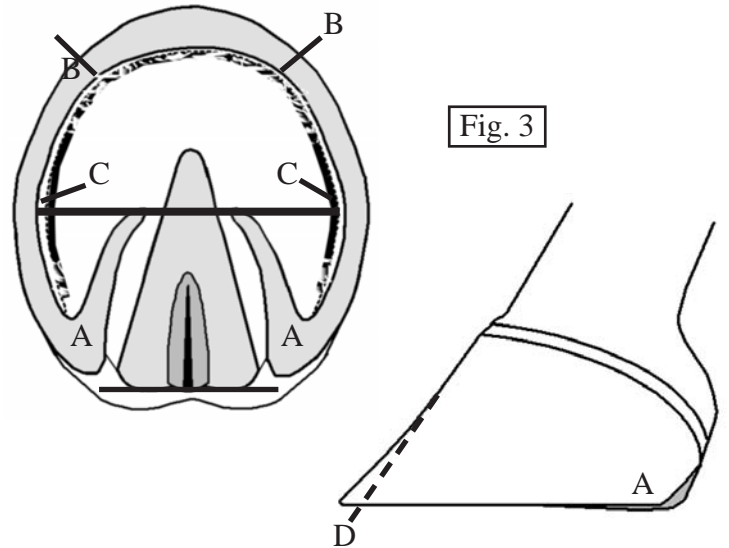
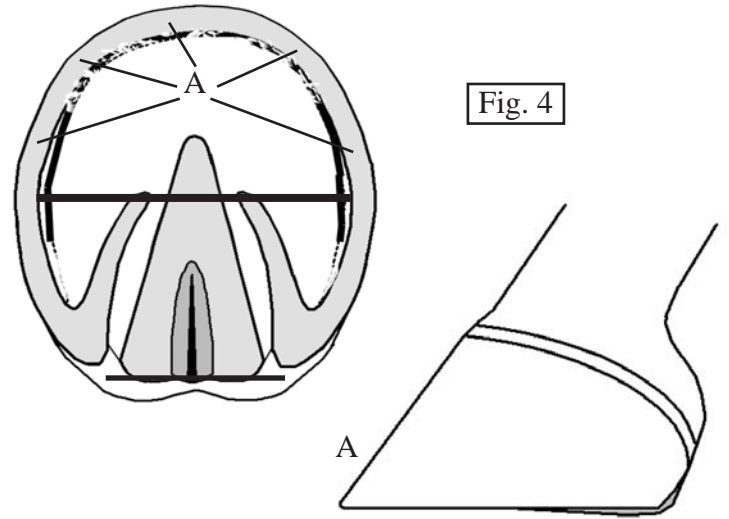

Fig. 3
Fig. 4
9. Final heel preparation consists of rasping a flattened area of the heel that includes a small portion of the bar and produces a substantial base of support. The heels should also be the same size and curvature. (Figure 3-A) The heel generally ends close to the back of the frog, which is good rule of thumb; however, use the live sole as the primary guide and the back of frog as a secondary guide.
10. Final toe preparation consists of rasping the wall down to the level of the sole, until you have just touched the black line with your rasp. You should make equal contact with the black line on each pillar (toe-quarter). (Figure 3-B) This will ensure good Lateral/Medial Balance. Be conservative and do not completely remove the black line.
11. Blend the wall in the quarters with the wall at the toe and the heel until the wall is perfectly flat and ready to accept the shoe. There should be an equal sole/wall gap in the quarters. (Figure 3-C)
12. It is very important to dress any flares on the outer wall prior to fitting your shoe. Select a prominent growth ring about half way up the hoof wall. Rasp from there down to the distal end of the wall. (Figure 3-D) The wall should be dressed so that it is basically straight from the hairline to the ground and you have achieved a uniform wall thickness on the ground surface. (Figure 4-A) If there is a considerable amount of distortion, you may not get the wall perfectly straight the first time or two. Your indication to stop rasping is when you start to see the white zone appear near the bottom of the wall. Within 3 or 4 shoeing cycles, the wall will migrate back to a better orientation with the coffin bone and serious distortions will not be a problem.